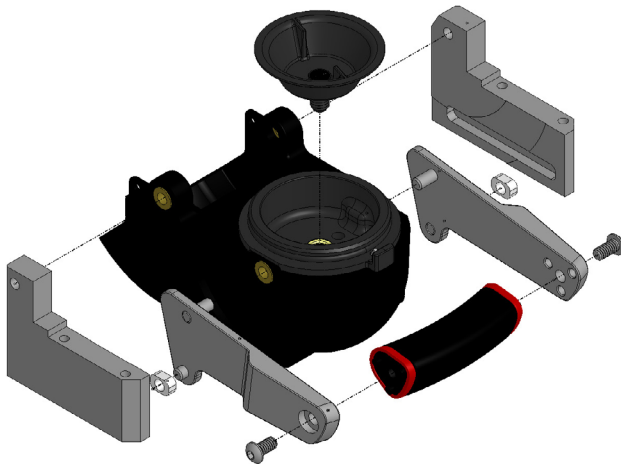

FIG. 6-2
2. Using 5/32" Allen wrench, remove one or both socket head screws from handle. Split the slide mount brackets from sprayhead assembly as shown. FIG 6-2